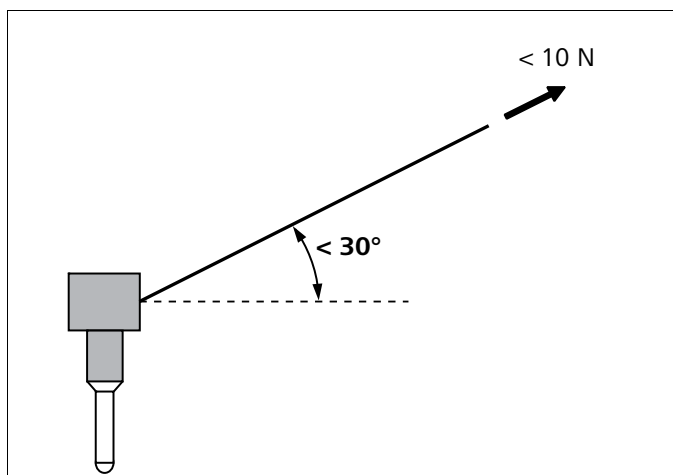

Fig. 904 Cable for exhaust temperature sensor
Permissible bending angle of cable: max. 30° (see Fig. 904).
- Permissible loading max. 10 N per individual wire of cable (see Fig. 904).